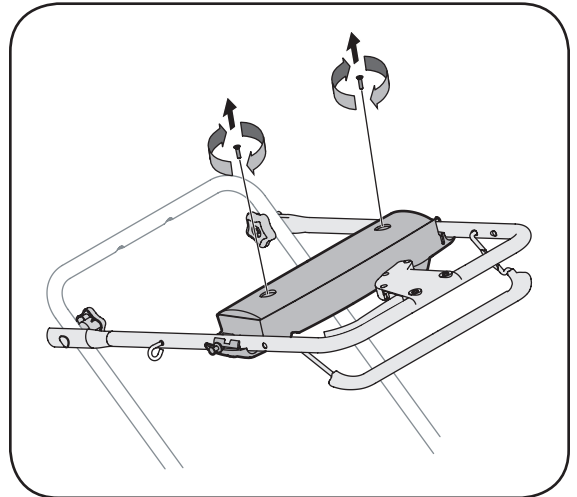

Figure 5-6: Fold down upper handle and remove two screws from back of housing.
1. Loosen round handle knobs securing upper and lower handles and carefully fold the upper handle down toward the lower handle as shown in Figure 5-6.
2. Remove the two screws securing battery cover to battery housing and place them to the side. See Figure 5-6.
1. Open the battery cover as described in **Replacing Battery**. Refer to Figure 5-6.